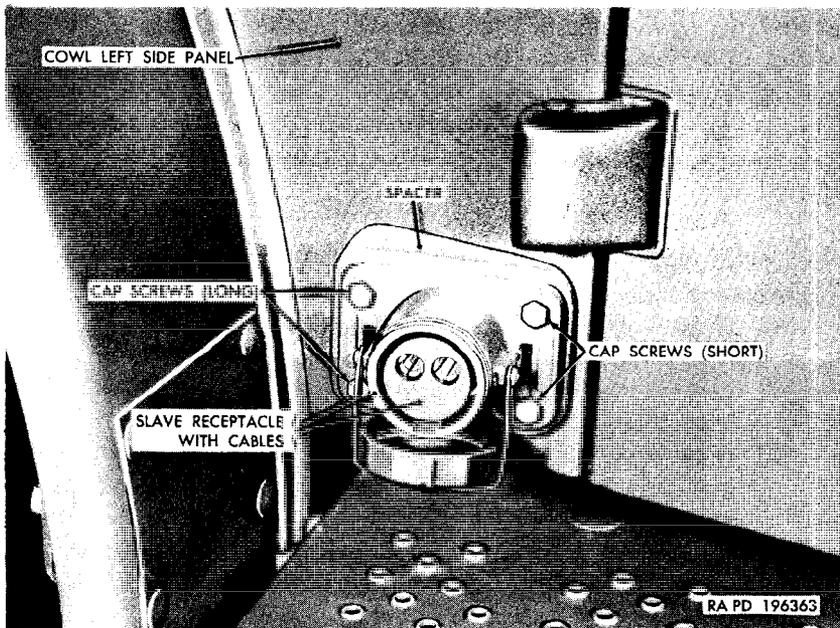

Figure 130. Auxiliary power receptacle installed.
- (6) Remove the four bolts and lockwashers that secure the receptacle to the spacer on the cowl panel (fig. 130), and remove the receptacle with cables.
- (1) Insert the receptacle cables through the opening in the spacer and the cowl panel with the short (ground) cable toward the rear of the vehicle. Position the receptacle on the spacer, and install the two $\frac{1}{4}$ -inch lockwashers and $\frac{1}{4}$ -28NF x $1\frac{1}{4}$ cap screws in the two rear holes, and two $\frac{1}{4}$ -inch lockwashers and $\frac{1}{4}$ -28NF x $1\frac{3}{4}$ cap screws in the two front holes (fig. 130). Tighten the screws.
- (2) Install the grommet over the cables and thread the cables through the grommet retainer with the dished side of the retainer toward the grommet. Position the grommet and retainer on the inner side of the cowl panel and install the two $\frac{1}{4}$ -20NC x $\frac{3}{8}$ cap screws. Tighten the screws.
- (3) Attach the receptacle ground cable to the left running board front hanger. Place a $\frac{3}{8}$ -inch, internal-external-teeth lockwasher at each side of the cable terminal, position the parts over the screw hole in the hanger, and install the $\frac{3}{8}$ -24NF x 1 cap screw and $\frac{3}{8}$ -24NF nut. Tighten the nut.